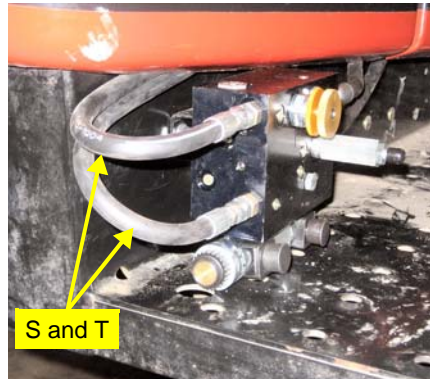

Figure 7a: Installed steering hoses
- a. Connect the two steering lines (**S**) and (**T**) from the Automated Steering Block to the steering cylinder. The longer hose (**T**) will connect to the rod end of the steering cylinder (**F**). The shorter hose (**S**) will connect to the head end of the steering cylinder (**F**). Route the hoses from the automated steering block over the frame and connect to the steering cylinder. (Figure 7a, 7b)